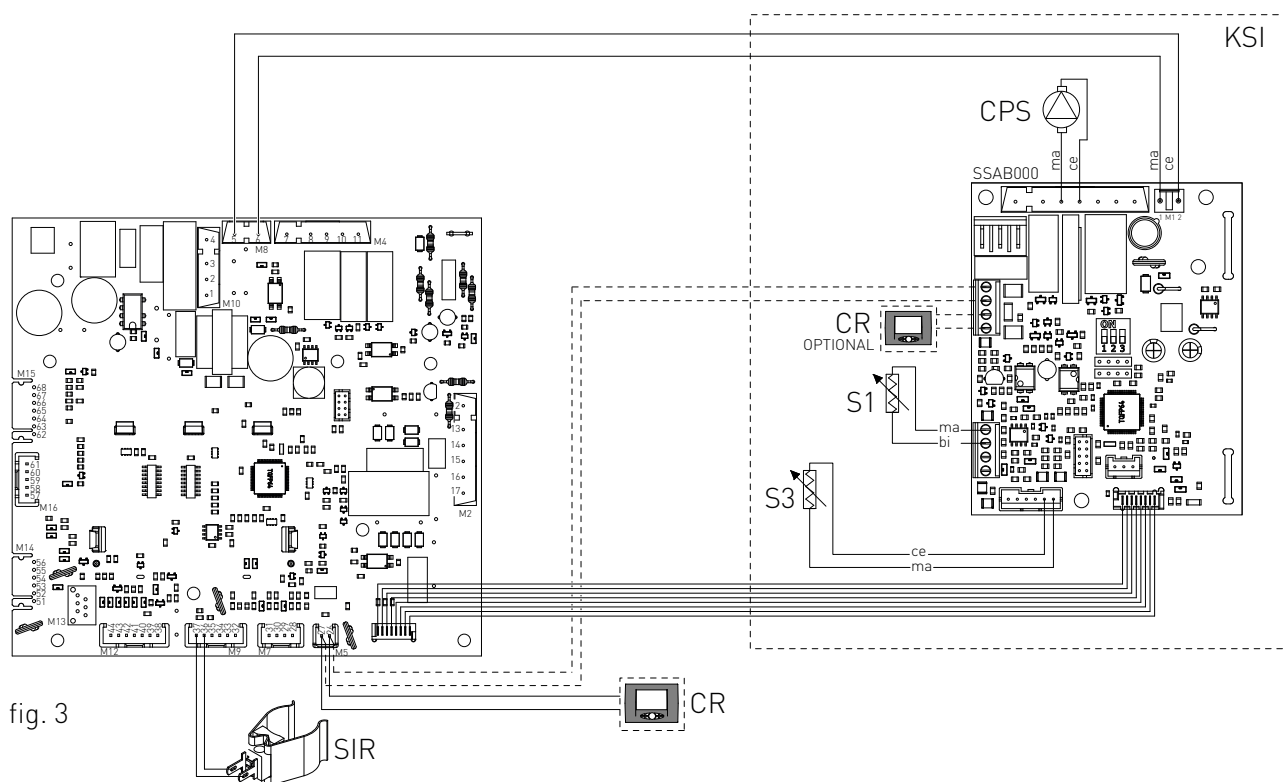

fig. 3
- › after removing the back plate, connect the items below to the P.C.B. (see fig. 3).